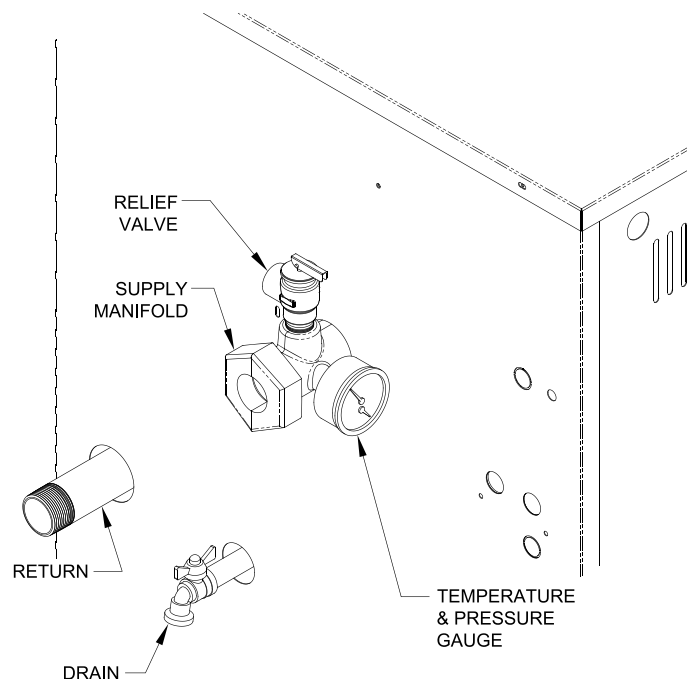

Figure 6-1: Near Boiler Piping
- C. Install Safety Relief Valve. See Figure 6-1. Safety Relief Valve must be installed with spindle in vertical position.
- D. Connect system supply and return piping to boiler. Refer to Figures 6-1, 6-2, and 6-3. Also consult Residential Hydronic Heating Installation and Design I=B=R Guide. Maintain minimum ½ inch clearance from hot water piping to combustible materials.